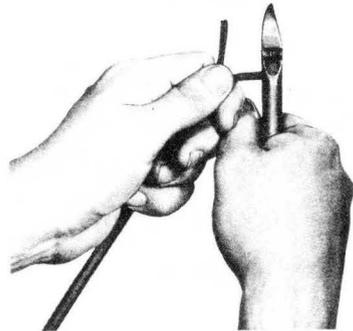

Fig. 3—Crushing Insulation
* THE CLEARANCE OVER RESIDENTIAL STREETS MAY BE REDUCED 2 FEET AT THE EDGE OF THE ROAD IF REQUIRED CLEARANCE IS OBTAINED AT THE CENTER OF THE ROAD. SEE FIG. 3.
(3) Crush the 15/16-inch length of insulation between the handles of diagonal pliers (Fig. 3).